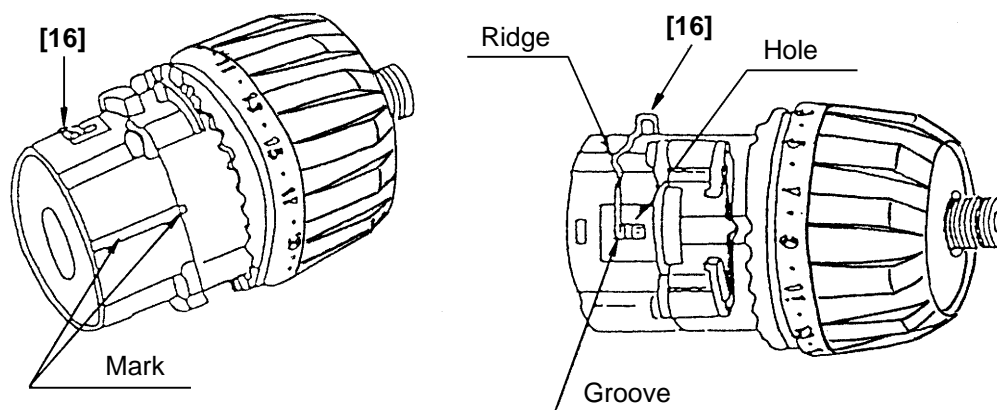

Fig. 12
- (ii) Install the Front Case [9] and the Rear Case [14] together with the mark on the Front Case [9] aligned with the mark on the Rear Case [14]. (See Fig. 12.)
With the ridge at the Shift Arm **[16]** facing the Motor **[25]** side, first install them on the unmarked side of the assembly reassembled in step (c). Then insert the projections on the Shift Arm **[16]** into the holes in the Rear Case **[14]** and make sure that the projections are fitted into the grooves in the Slide Ring Gear **[17]** mounted within the Rear Case **[14]**. (See Fig. 12.)